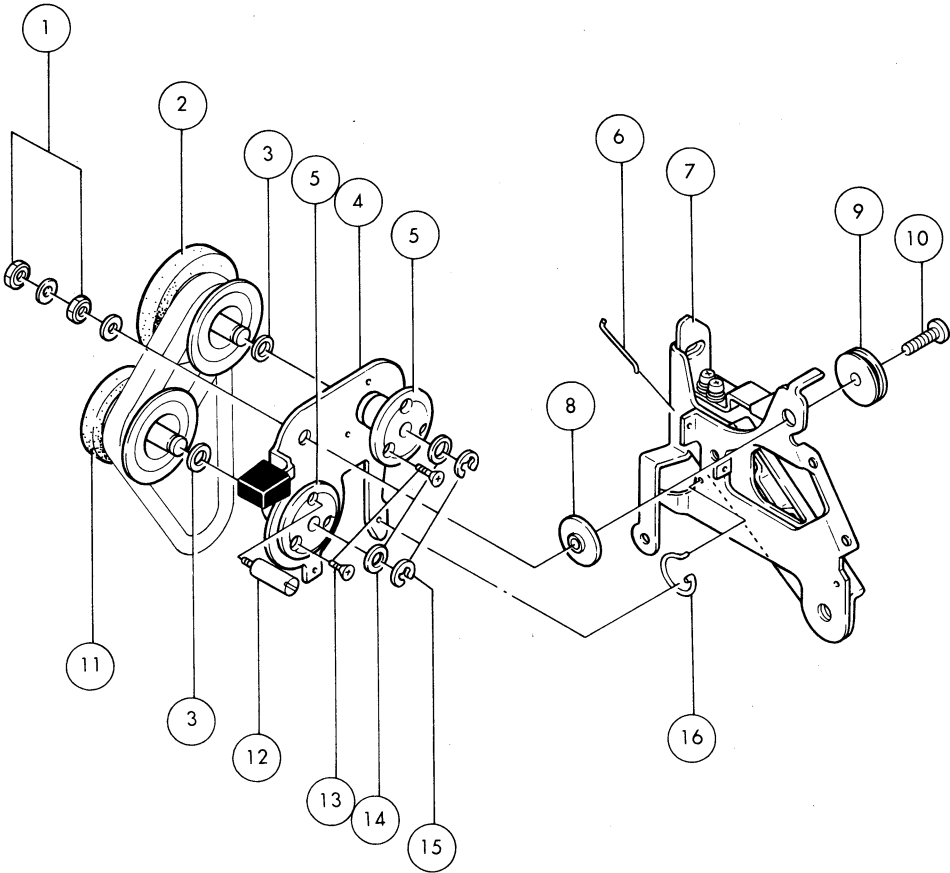

Fig 27
A. Disassembly Refer to Fig.27.
1. Stretch the bend of (6) and pull out it.
2. Remove (1) and detach (4) from (7).
3. Disassembly the rest, referring to Fig.27.
4. The replacement of (2) or (11) can be done without detaching (7) from the base frame, only by removing (15). At this time, be sure not to drop (3)(14).